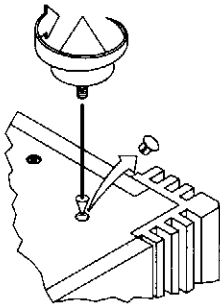

Figure 4. Isolation Feet Installation
2. Remove the plugs (figure 4) in each of the isolation feet mounting holes.